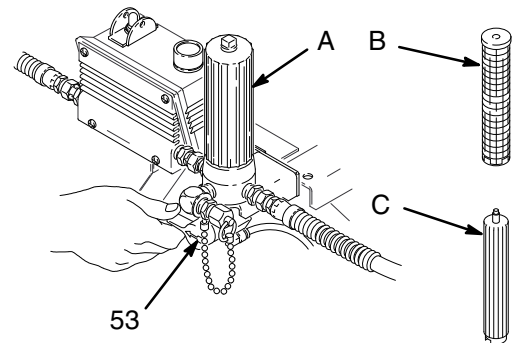

Fig. 4
2. Remove the filter bowl (A) and screen (B); see instruction manual 307–273, supplied. Install the bowl and support (C), without the screen, to flush. Clean the screen separately. See Fig. 4.
3. Close the pressure drain valve (53). See Fig. 4.
NOTE: Steps 1 to 13 refer to Fig. 5 and Fig. 4.